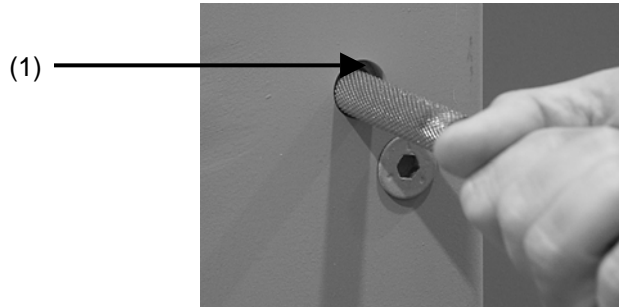

Figure 2-14. Ratchet's handle depressing level stop
- c. Using end of 3/8" ratchet handle (WP 0058 00, SATS Base Tool Component List), depress level stop (1) (Fig. 2-14) while slowly turning jack handle clockwise one turn.
- c. Using end of 3/8" ratchet handle (WP 0058 00, SATS Base Tool Component List), depress level stop (Fig. 2-14) while slowly turning jack handle clockwise one turn.